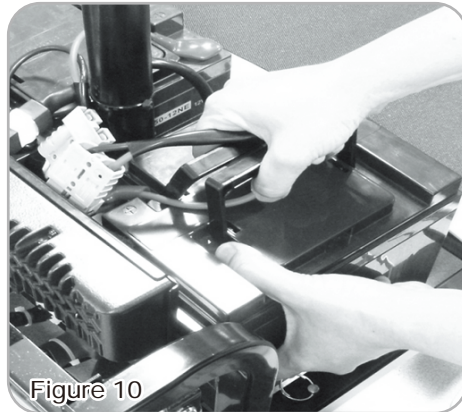

Figure 10
*Batteries are heavy please beware when removing. * Please do not touch the positive plate and the negative plate of the batteries with any metallicity. (See Fig. 10)